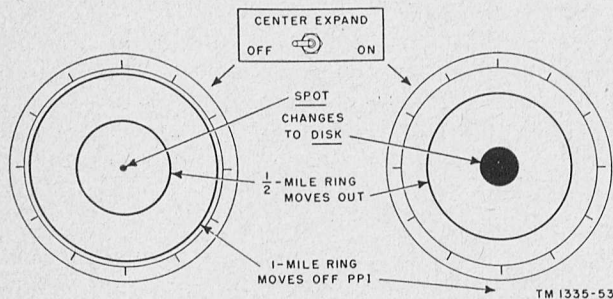

Figure 52. Center expand.
- (2) *Use of center expand.* To observe targets that are very close to the radar-equipped vessel, use the CENTER EXPAND (fig. 52) on the 1-mile range. With the CENTER EXPAND switch at ON, the bright spot normally at the center of the PPI is expanded into a bright circle or disk, the $\frac{1}{2}$ -mile range ring is moved toward the outer edge of the PPI scope, and the 1-mile range ring is moved off the scope. Targets within the $\frac{1}{2}$ -mile range ring also are moved toward the edge of the scope.